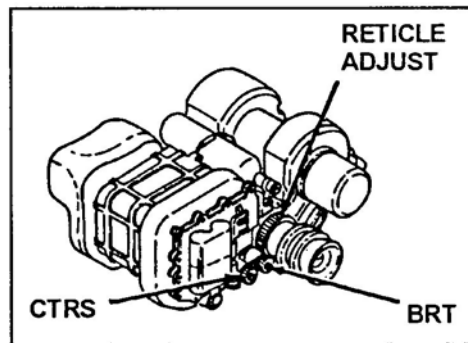

Figure 10. Reticle, Brightness, and Contrast Controls
- f. Turn the reticle adjust ring for the best focus of the reticle (Figure 10).